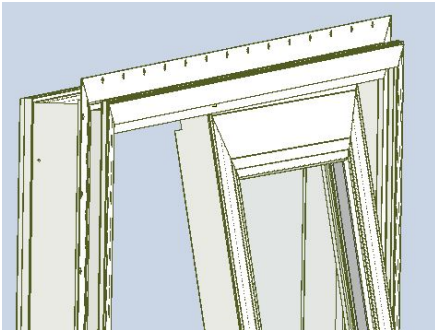
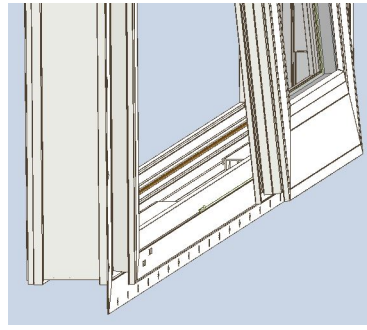
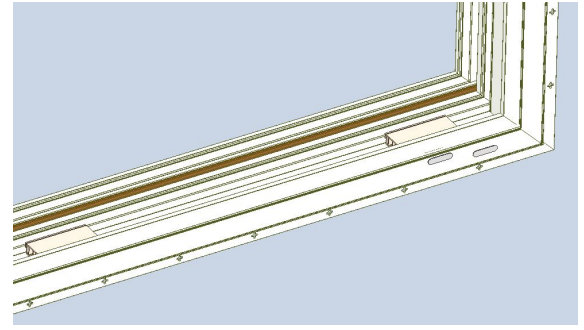

Figure 2A
Figure 2B
Figure 2C
- 2. From the middle of the frame push the top of stationary panel completely up into the outside pocket of the frame's head (Figure 2a), then swing the bottom of panel into the frame and drop into the outside sill pocket (Figure 2b) and slide the panel over the bottom spacers (Figure 2c).